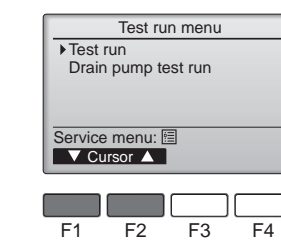

Fig. 7-4
- ④ Select "Test run" with the [F1] or [F2] button, and press the [✓] button. (Fig. 7-4)